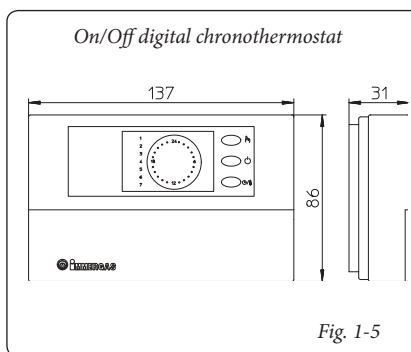

Fig. 1-5
- On/Off digital chronothermostat (Fig. 1-5). The chronothermostat allows: